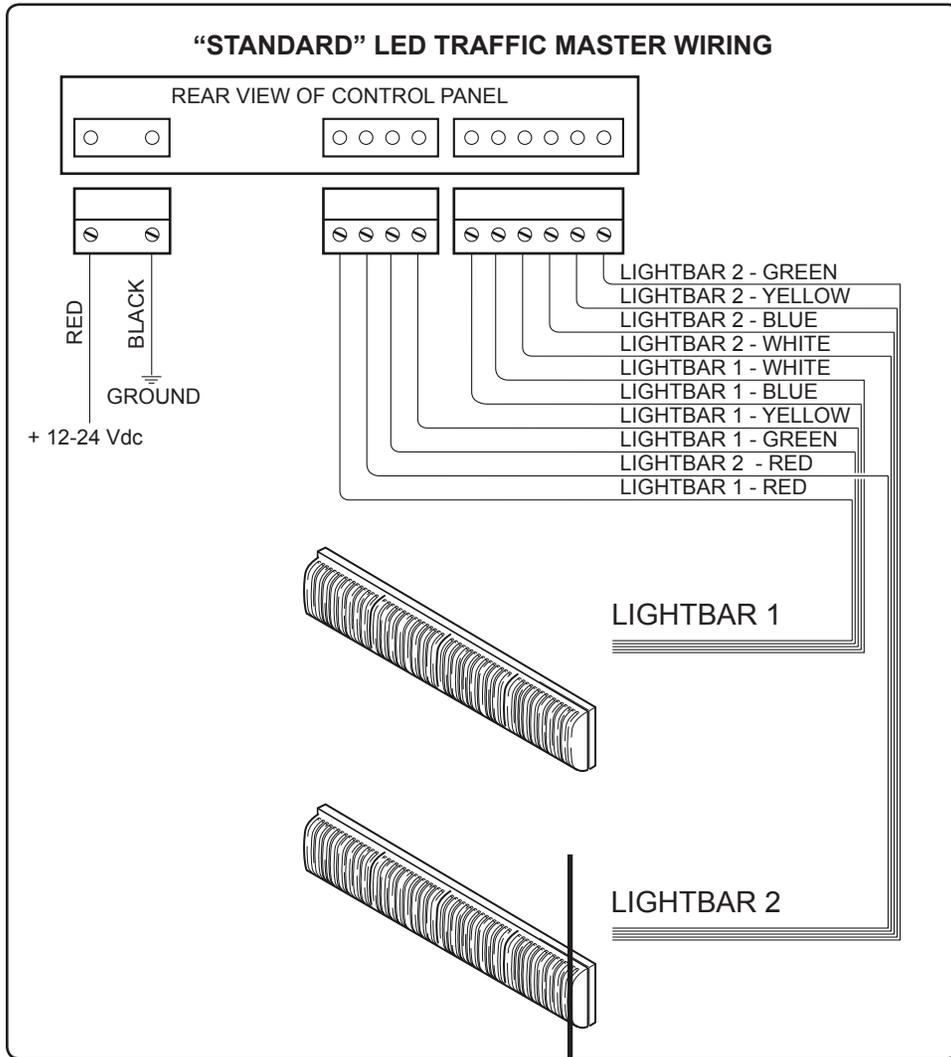
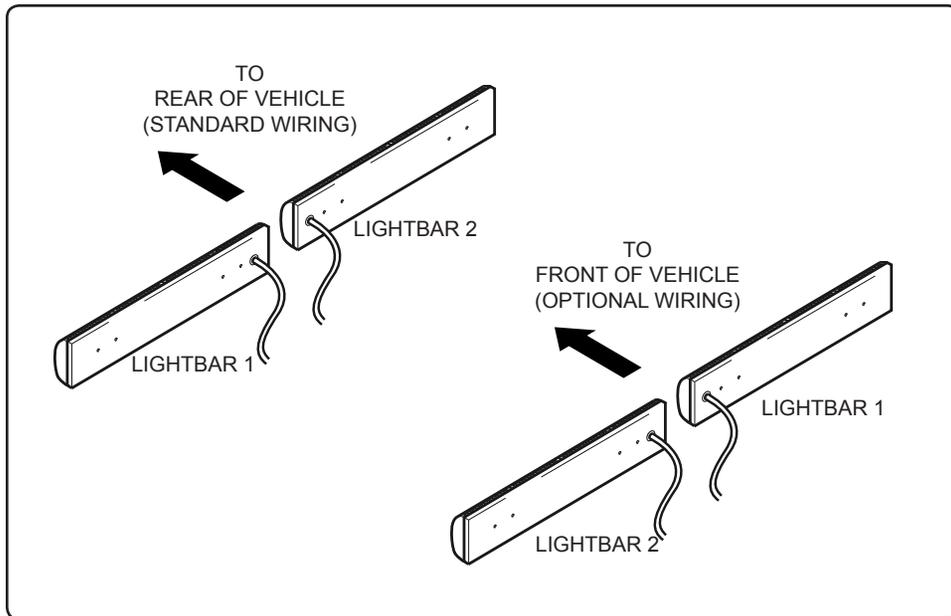

Figure 5. Standard and Optional Wiring Schematics
Figure 2. Mounting Configurations
- Attach the power and ground wire to the appropriate pins in the 2 pin socket housing as shown in Figure 5.
- Attach the wires from the two 5 wire harnesses into the appropriate 6 & 4 pin connectors as shown in Figure 5. BE SURE TO PLACE THE PINS IN THE PROPER SEQUENCE!!!
The Split Arrow LED Traffic Master should be mounted using the adjustable "L" brackets which are provided. Refer to page 5 for specific mounting instructions. In addition, note Figure 2, relating to mounting configurations and STANDARD or OPTIONAL wiring specification. See page 7, Figure 5 for specific wiring.